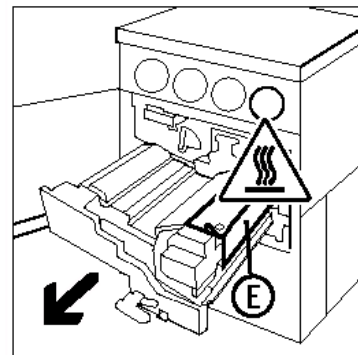

Figure 33: Pulling out the Paper Path Module
- 3 Pull the Paper Path Module out of the copier/printer until it is fully open, as illustrated in Figure 33.